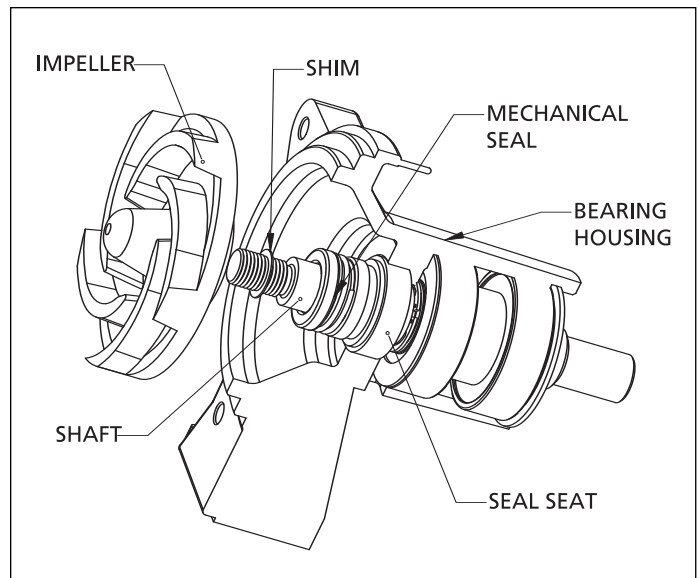

Figure 7 - Seal and Impeller Assembly
6. Wet the inside rubber portion of the new seal (part of Ref. No. 5) with a light coating of soapy water. Slide seal onto the pump shaft with the precision sealing surface (carbon) facing the seal seat ceramic face (See figure 7). This completes seal installation.